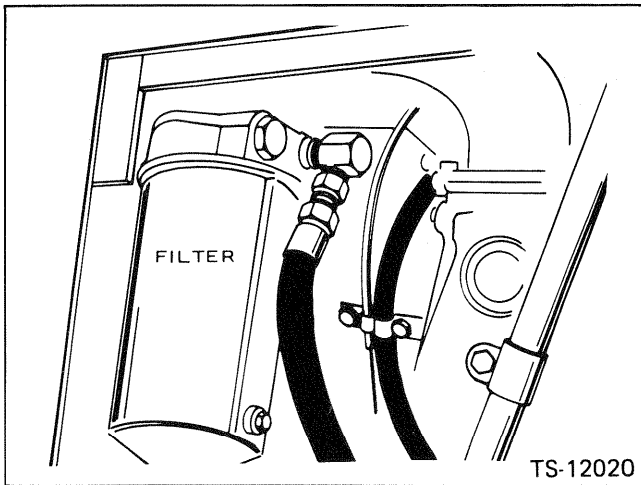

Fig. 9-2 Filter — Transmission and Torque Converter (G.M.)
5. Replace the element in the transmission and torque converter filter assembly. (See Fig. 9-2 for the position of the filter assembly.) thoroughly clean the filter case and base casting before installing a new element. Use a new gasket in the base casting and tighten the center bolt to 30 ft. lbs. torque.